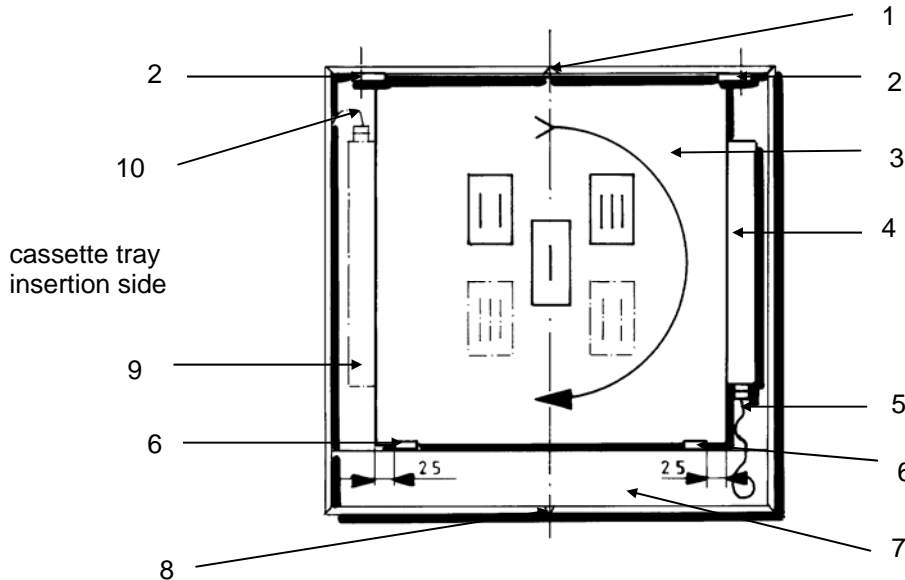
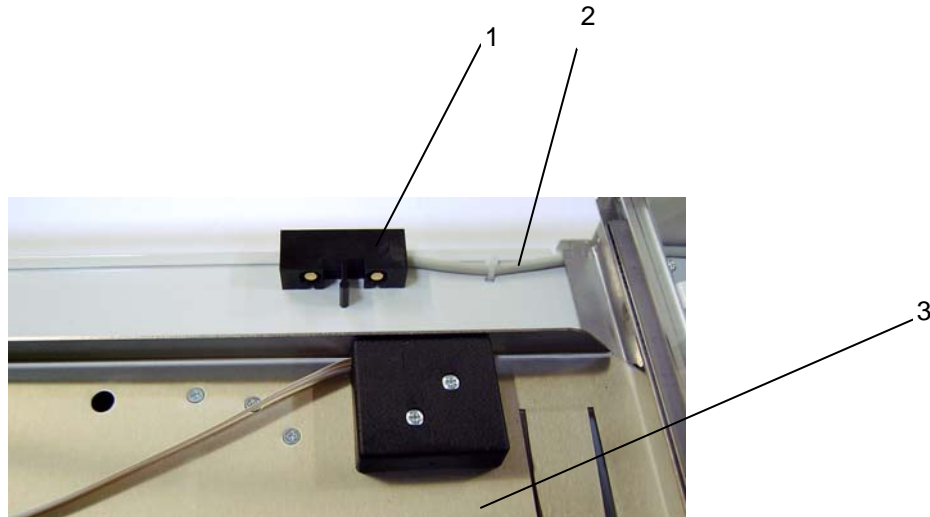
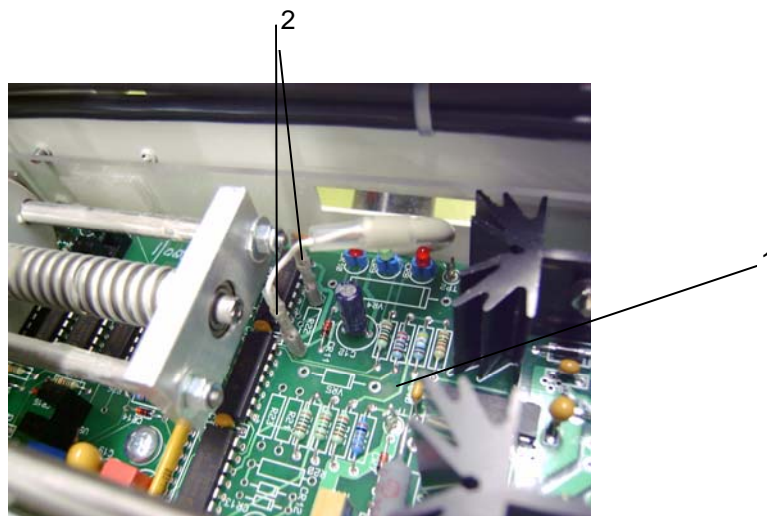

Fig. 2-4 Bucky with measuring chamber
Figure 2-8 Bucky Fail-Safe contact block
Fig. 2-9 Connection of Fail-Safe signal
- Unscrew cover plate (Figure 2-4, item 7).
- Disconnect the chamber interface cable (Figure 2-4, item 5) from the pre-amplifier of the measuring chamber (Figure 2-4, item 4).
- Remove the fasteners (Figure 2-4, item 2) from the measuring chamber.
- Pull out the measuring chamber (Figure 2-4, item 3) with positioning blocks (Figure 2-4, item 6) of the U-shaped rail of the Bucky.
- Turn the measuring chamber by 180 degrees (see Figure 2-4). The pre-amplifier of the measuring chamber (Figure 2-4, item 9) has to face the side for cassette tray insertion (see Figure 2-4).
- Place the positioning blocks (Figure 2-4, item 6) at the measuring chamber (Figure 2-4, item 3) (approx. 25 mm apart from the border of the measuring chamber, see Figure 2-4) and insert them together with the measuring chamber into the U-shaped rail of the Bucky.
- Position the fasteners (Figure 2-4, item 2) at the measuring chamber and tighten them at the corresponding holes of the Bucky.
- Take care that the front to rear center of the measuring chamber and the front to rear center of the Bucky are in line. This center of the Bucky is marked by a notch (Figure 2-4, item 1) and a slotted hole (Figure 2-8, item 8).
- Connect the chamber interface cable (Figure 2-4, item 10) at the pre-amplifier of the measuring chamber (Figure 2-4, item 9).
The Bucky Fail-Safe contact block (Figure 2-8, item 1) detects the Fail-Safe signal of the manual cassette tray with Fail-Safe unit (Figure 2-8, item 3).
Via cable (Figure 2-8, item 2) the Fail-Safe signal is routed to Bucky electronic PCB (Figure 2-9, item 1) and controls the Bucky Contact release.
The Fail-Safe signal comes from the Bucky Fail-Safe contact block (Figure 2-8, item 1) and is connected to the Bucky control PCB (Figure 2-9, item 1). Depending of the PCB version connections are made to the pads of position R22 or C.P.S. J5/1 and J5/2 (Figure 2-9, item 2)
- Disconnect the plug P1 from the PCB and (if connected) the Fail-Safe signal (Fig. 2-9 item 2)